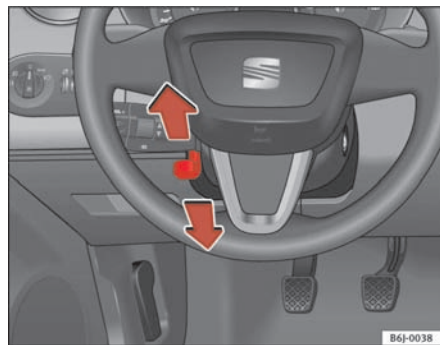

Fig. 90 Steering column height adjustment
- Push the lever ⇒ **fig. 90** located under the steering column ⇒  down.
- Adjust the steering wheel until the correct position is set ⇒ **fig. 90**.
- Adjust the driver seat or steering wheel so that there is a distance of at least 25 cm between the steering wheel and your breast bone ⇒ **fig. 90**. If you fail to observe the minimum distance, the airbag will not protect you. Risk of fatal injury.